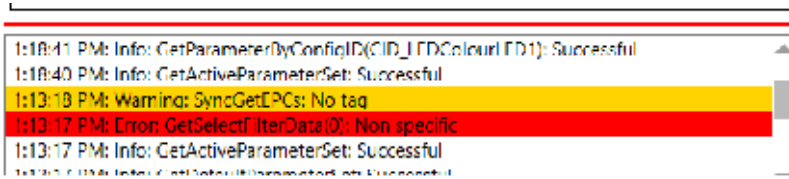

Fig. 31: Status field
- ▶ To expand the status field section and see more status messages, click on the boundary line between the sections (red line in Fig. 31) and drag it upwards.